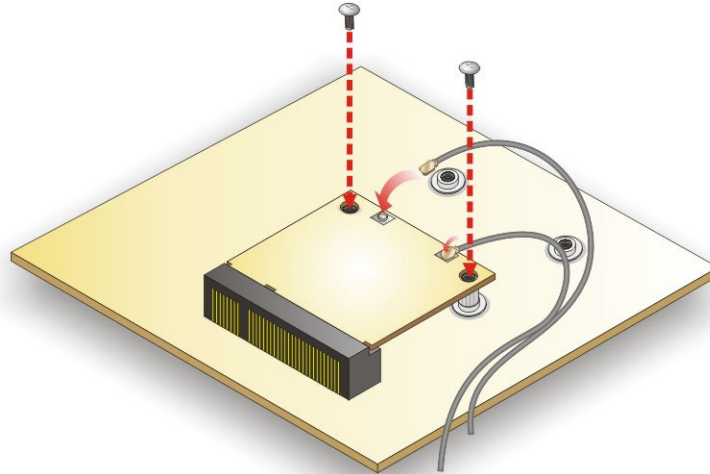

Figure 3-21: Securing WLAN Module and Connecting RF Cables
Step 7: Secure the WLAN module with the retention screws previously removed (Figure 3-21).
Step 8: Connect the two RF cables to the antenna connectors on the WLAN module (Figure 3-21).